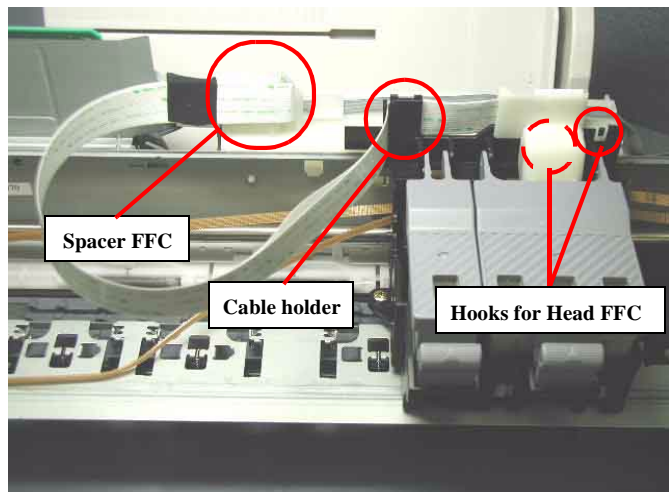

Figure 4-7. Head FFC holder removal
- Make sure to place the Head FFC on the Spacer FFC and the cable holder on the left side of the CR unit. (Refer to Figure 4-7)
6. Release the Head FFC from the Spacer FFC on the LD roller shaft holder, and disconnect the Head FFC from the connectors (CN8, CN9) on the Main board. (Refer to Figure 4-7)